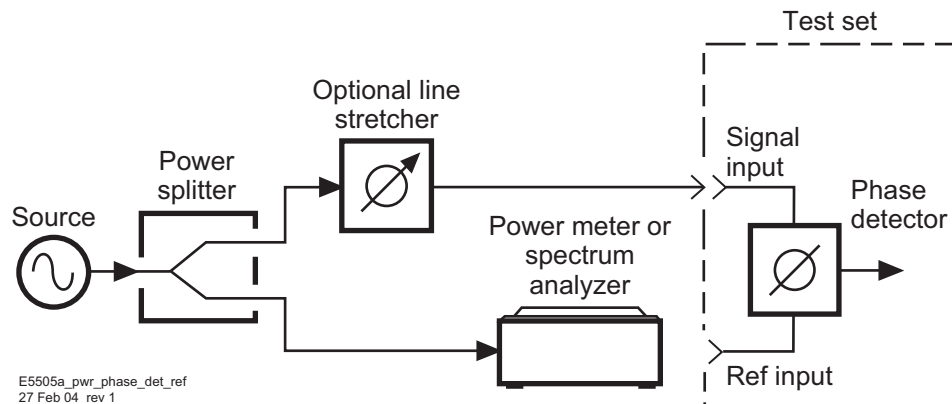

Figure 152 Measuring power at phase detector reference input port
- 5 If you are not certain that the power level at the Reference Input port is within the range shown in the preceding graph, measure the level using the setup shown in Figure 152, “Measuring power at phase detector reference input port,” on page 220.